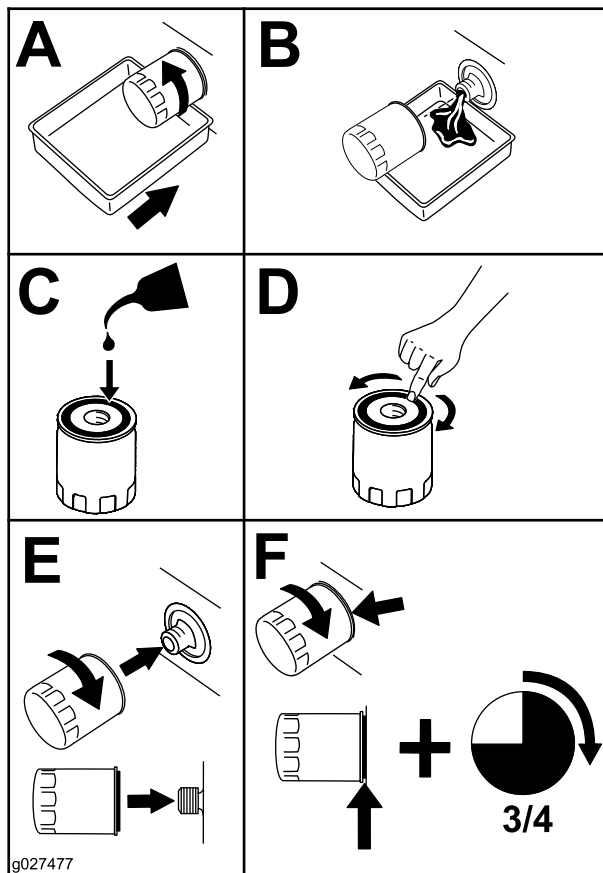

Figure 37
2. Change the engine-oil filter (Figure 37).